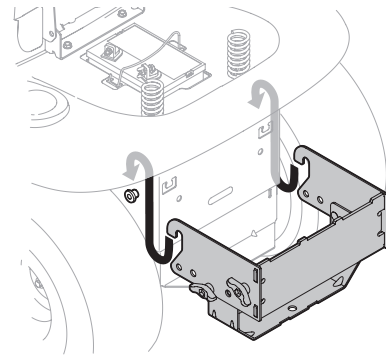

Figure 3
1. Place the hooked ends of the mounting assembly over the shoulder bolts on the tractor and line up the universal support bracket center hole with the hole on the tractor's hitch. See Figure 3.